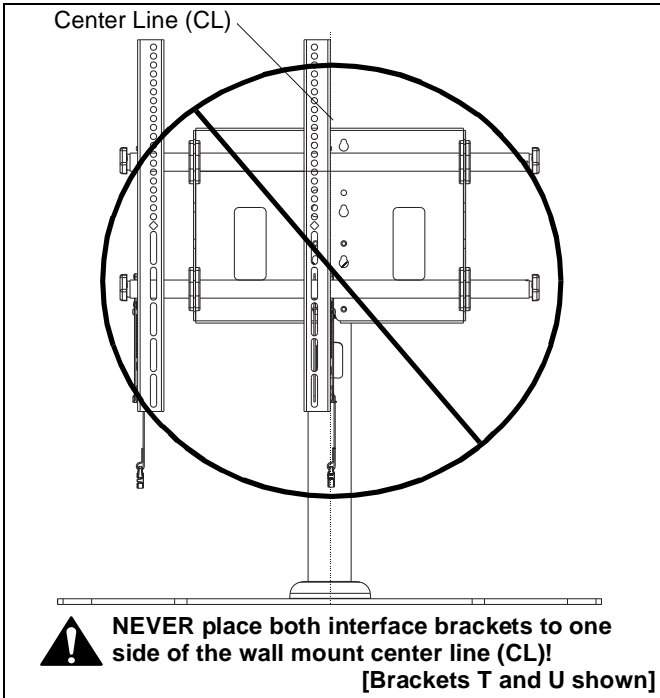

Figure 8
**NOTE:** NEVER place both interface brackets (T and U) to one side of the wall mount center line! (See Figure 8)
1. Hang screen onto the top rail of the table stand interface (S) in a centered position. (See Figure 8)
- Hang top hook of interface brackets (T and U) onto the top rail of the table stand interface (S). (See Figure 8)